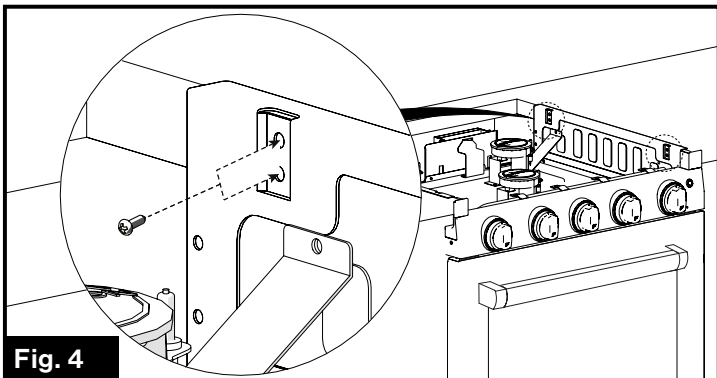

Fig. 4
5. Fix the range oven in the cabinet opening on both left and right using four screws (Recommend #8-15 x 3/4" wood type, not provided) on both left and right (2 screws each side). (Fig. 4)